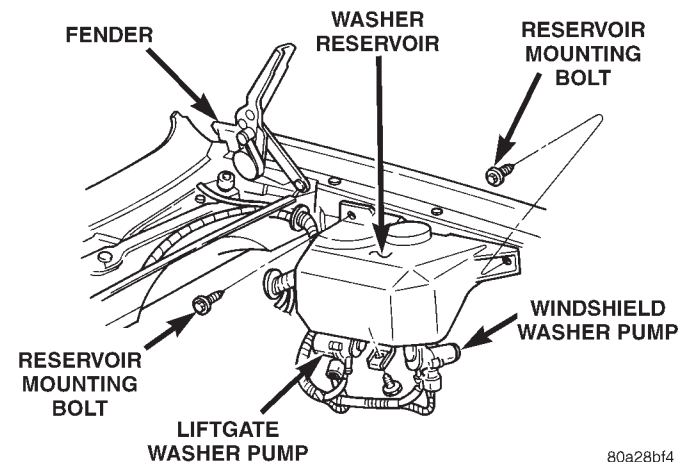

Fig. 17 Washer Reservoir Remove/Install
(1) Disconnect and isolate the battery negative cable.
(2) Remove the three screws that secure the washer reservoir to the inner fender shield (Fig. 17).